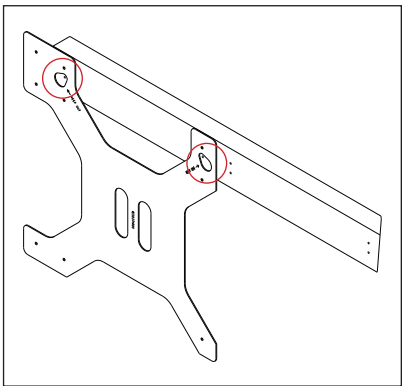

Figure 2: Trace Keep-Out Areas on Structure Jig
- b. Use a marker to trace both keep-out areas on the jig. Refer to **Figure 2**.